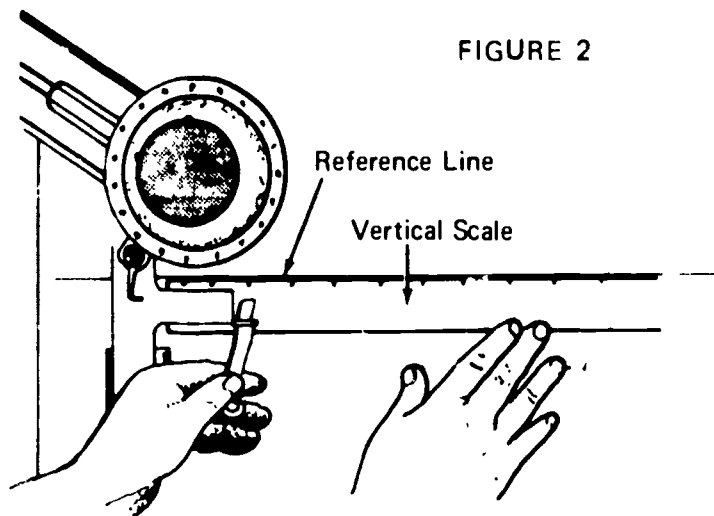

FIGURE 2
- b. Loosen the panhead screw on vertical scale and bring the vertical scale parallel to the reference line (Figure 2)